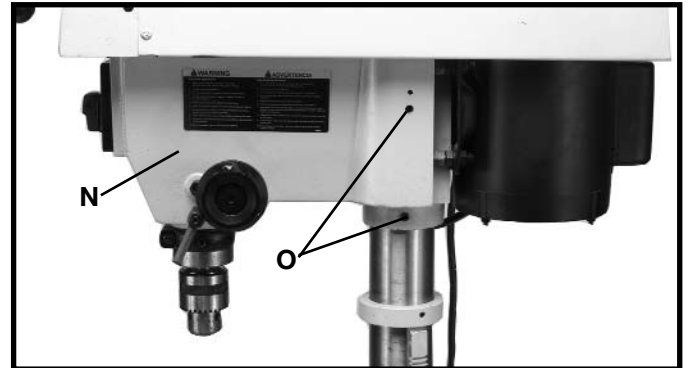
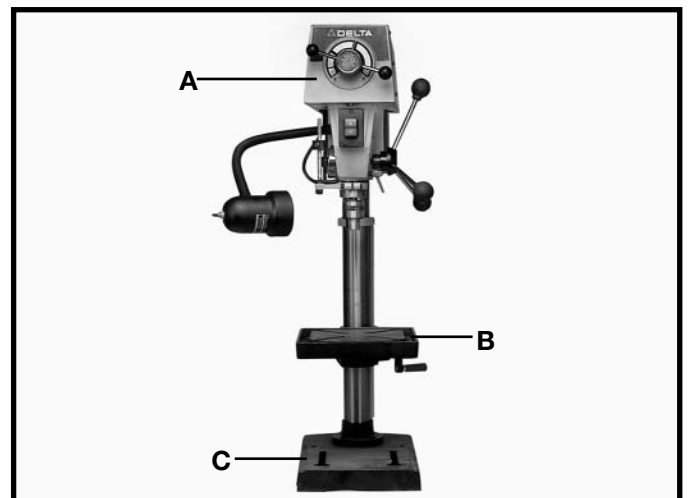

Fig. 13
Fig. 13A
8. Place the drill press head (N) Fig. 13, onto the column as far as it will go. Align head (A) Fig. 13A, to table (B), and base (C). Tighten the two head locking screws (O) Fig. 13, with wrench supplied.